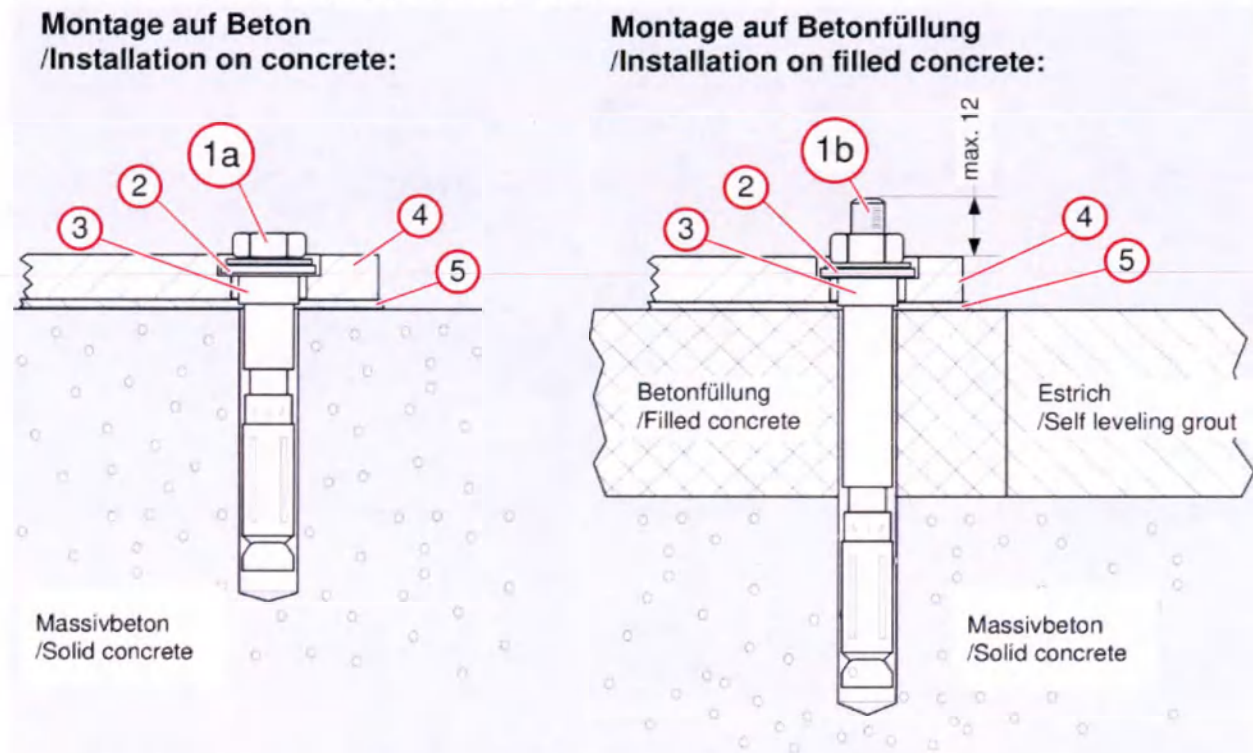

Fig. 24: Table, inserting the heavy-duty expansion bolts
- Insert the heavy-duty anchor bolts Fig. 24; torque 80 Nm for Hilti HSL-3 ; 60 Nm for Hilti HSL-4 .
To keep the cover panel for the mounting plate from sitting on the threaded rods, cut off any excess higher than 12 mm Fig. 24.